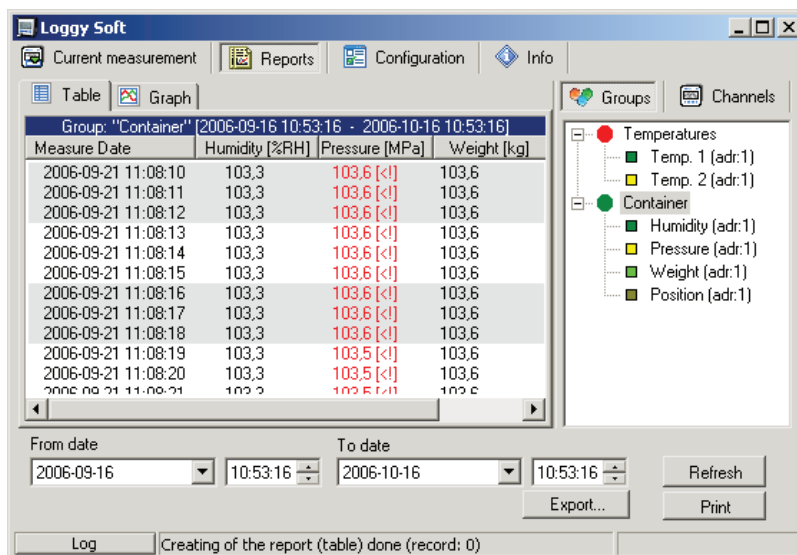

Fig. 3.3. **Reports** - menu
The **Table** tab (Fig. 3.3) is used for printing information concerning recorded measurements (e.g. temperature, humidity) in the form of a table for one of the groups or a particular measurement channel selected by the user (for more information on groups see 3.3.2 section, at page 93). This tab also enables the export of data to text format files. The exported file is formatted in a way allowing the transfer of data to a calculation sheet.
- click appropriate tab **Groups** or **Channels** (Fig. 3.3),